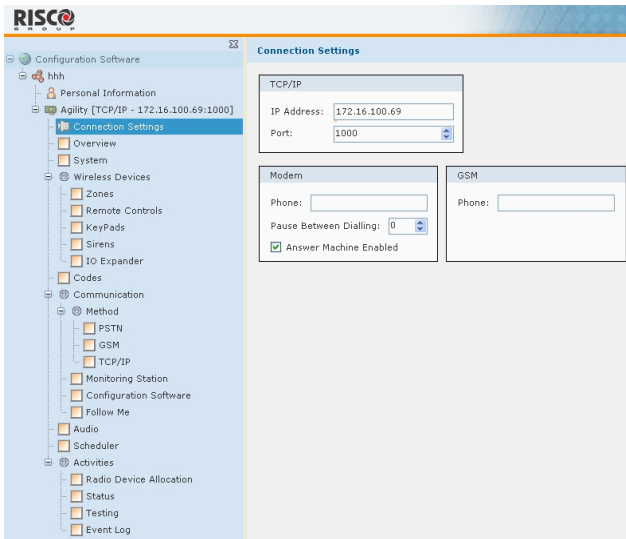

Figure 29: Connection Settings screen
1. In the **Connection Settings** screen (see Figure 29) enter the relevant connection information according to the types of connection your client possesses: